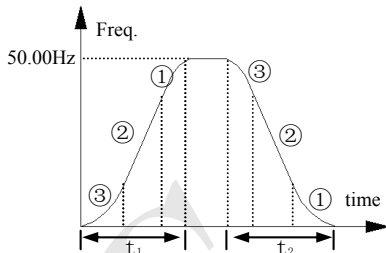

Fig.7-2 S curve acc/ dece
1: S-curve acceleration and deceleration mode. Output frequency raises or declines as S-shaped curve, as Fig. 7-2.
S curve starts interval time as fig.7-2③ output frequency changed slope increase slowly from 0.
S curve up interval time as fig.7-2②, output frequency changed slope is constant.
S curve ends interval time as fig. 7-2①, output frequency changed slope decrease slowly to 0.